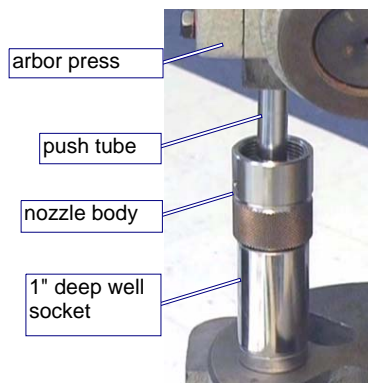

Figure 6-47: Using the Push Tool and Arbor Press to Insert the Mixing Chamber into the Nozzle Body
3. Screw the **mixing tube retainer nut** onto the **nozzle body threads** to prevent thread damage, or place a **1-3/16" deep-well socket** over the 1" hex on the **nozzle body** for support (Figure 6-47).